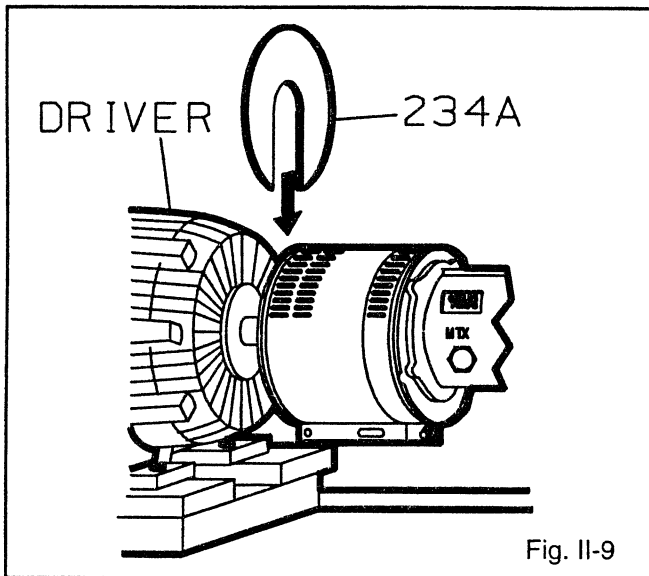

Fig. II-9
- Place end plate (driver end) over motor shaft as shown in Fig. II-9. Locate the end plate in the annular groove at the rear of the coupling guard half (driver end) and secure with a bolt, nut, and two (2) washers through the round hole at the rear of the guard half. Finger tighten only.
- Remove nut, bolt, and washers from coupling guard half (driver end), and remove end plate. Fig. II-9.